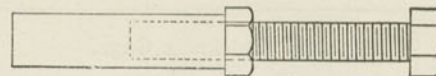

Fig. 241. Spreader.
A. Each being in its proper place, a  $5/16$  inch block is put between their lower ends and the binder; they are held apart by "spreaders," Fig. 241 top and bottom; a 5-foot straight edge is wedged between the binders and the bottom spreader as shown at  $o$ , Fig. 238, and one between the top spreader and the pedestal top. With a small straight edge  $h$ , Fig. 238, the others are adjusted with their front edges in line between  $j$  and  $k$  (or  $h$  and  $i$ ).